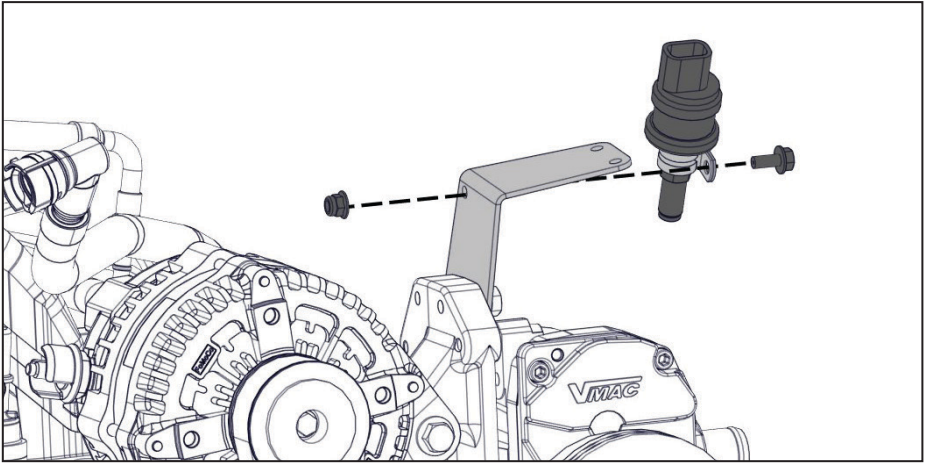

Figure 13 — Mount pressure switch
- Using the supplied fasteners and P-clip, mount the pressure switch on the air filter bracket (Figure 13).